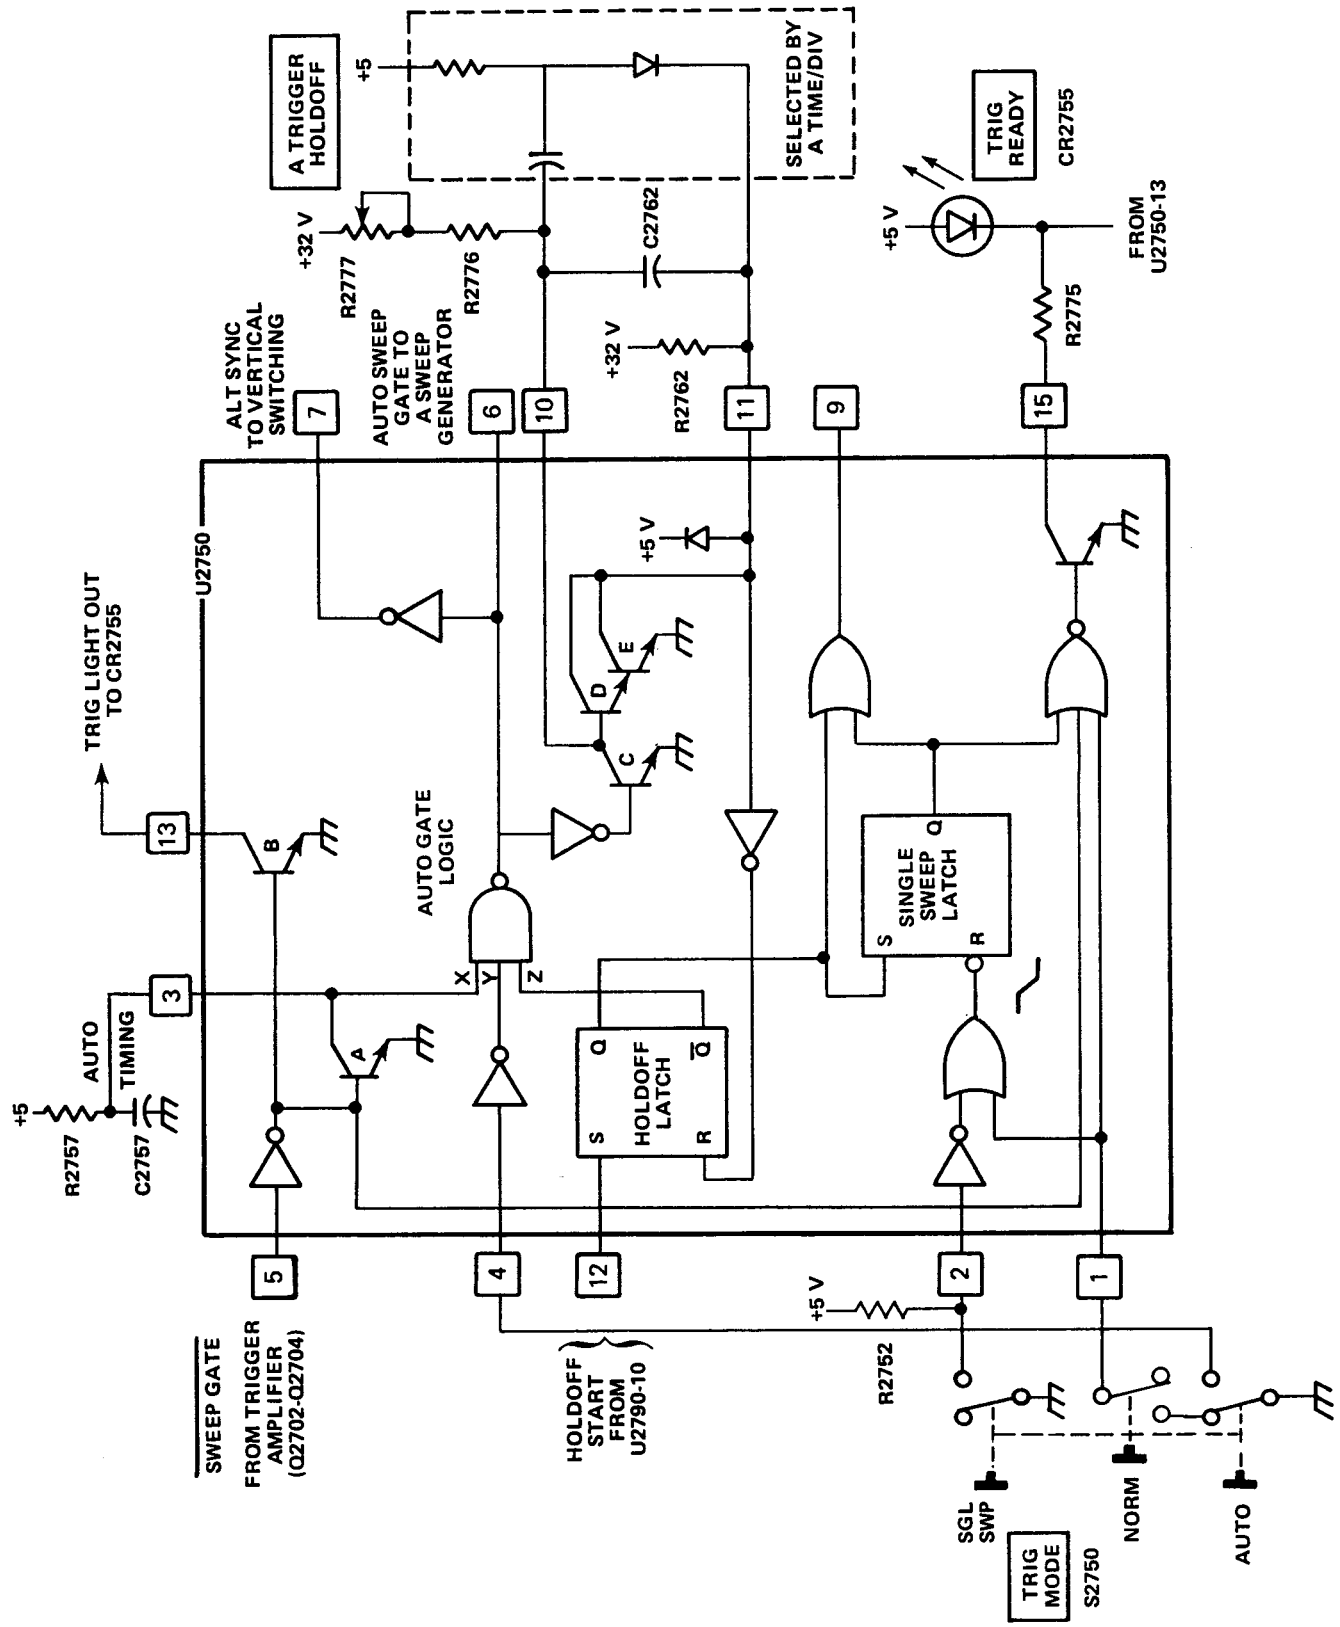
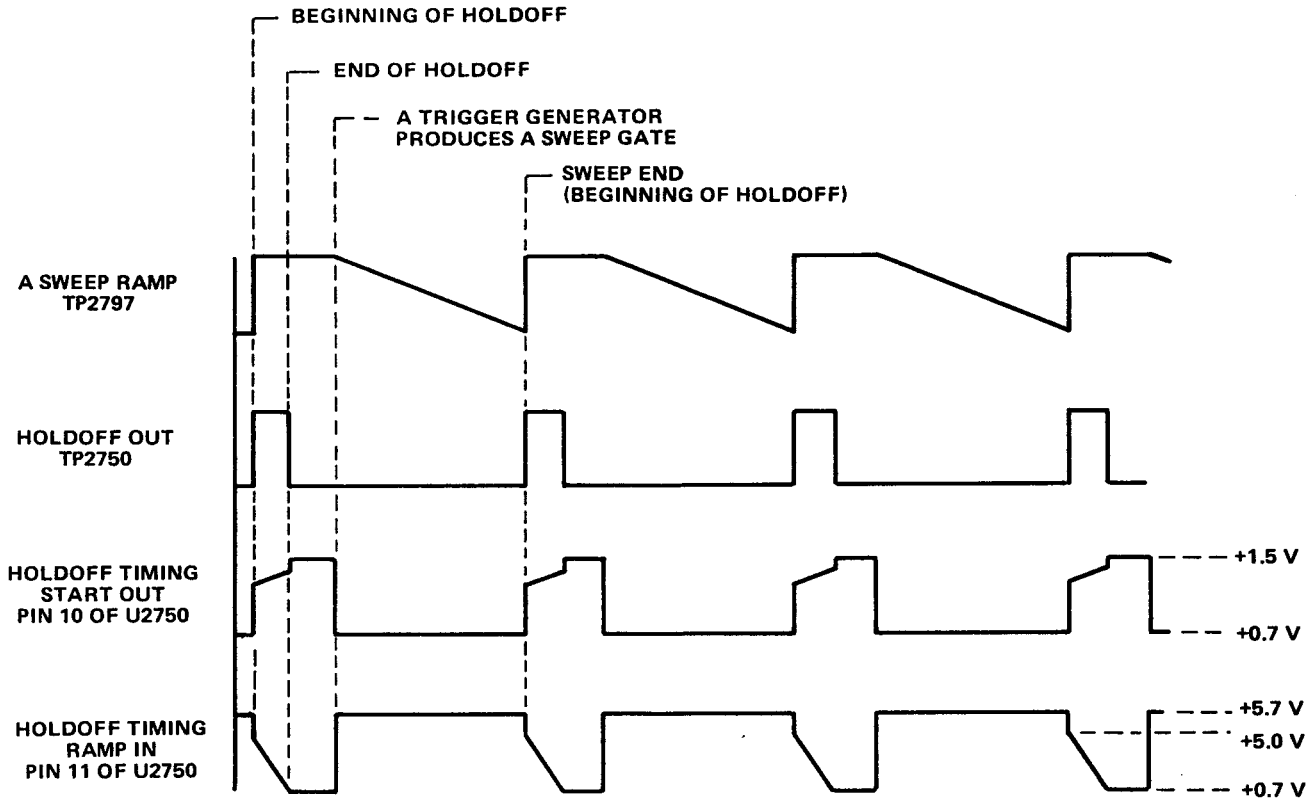
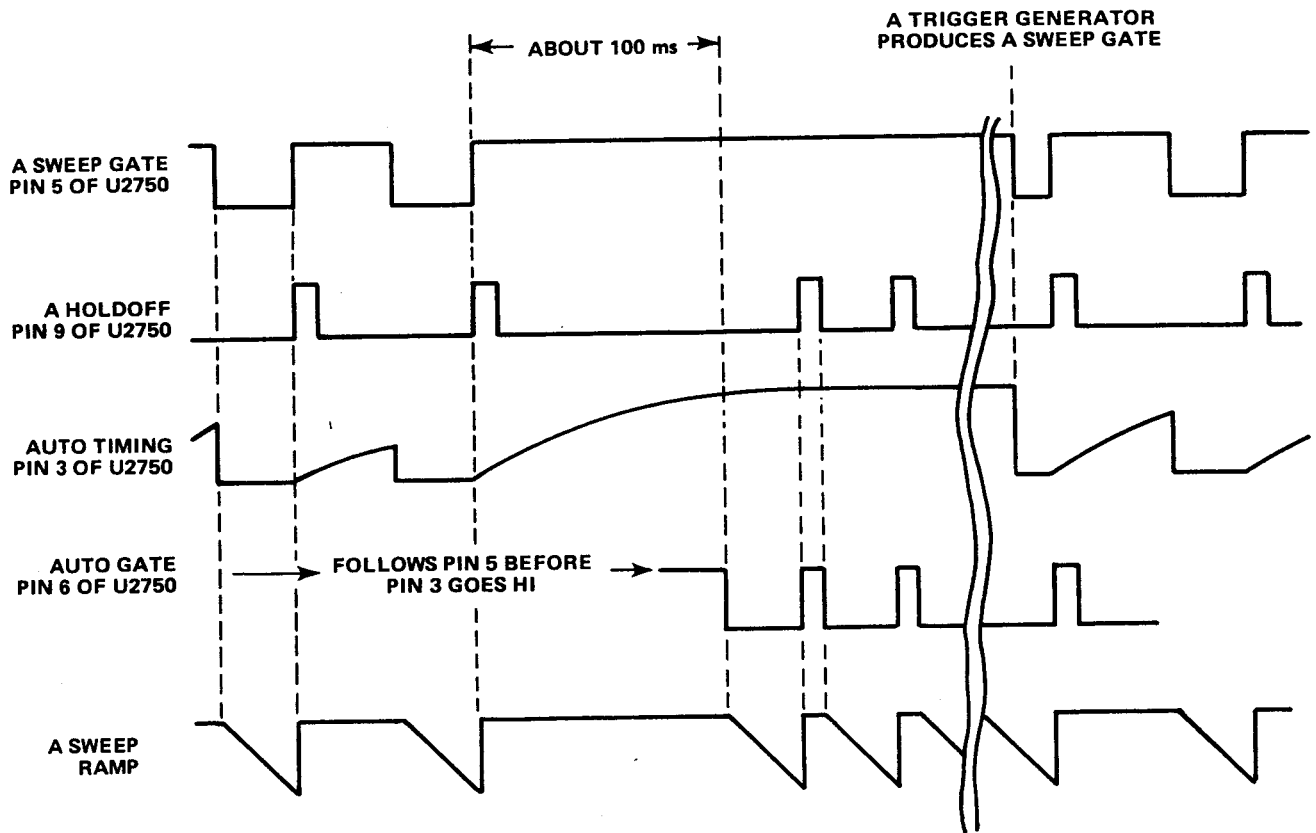

Figure 4-10. Functional block diagram of the sweep control integrated circuit and associated circuitry.
Figure 4-11. Waveforms produced by holdoff control circuitry.
Figure 4-12 Waveforms produced during AUTO sweep gate generation.
**(9) Sweep Control.** Sweep Control consists of U2750 and associated circuitry. The circuit controls holdoff duration, AUTO sweep, and single sweep operation. Figure 4-10 shows a functional block diagram of U2750 and associated circuitry.
**(a) Holdoff Control.** Holdoff control is provided by a Miller ramp generator which consists of three transistors within U2750, and an RC network. Resistors R2776 and R2777 are the timing resistors. Capacitor C2762 and a capacitor selected by the A TIME/DIV switch are the timing capacitors. Figure 4-10 shows a functional block diagram of U2750 and associated circuitry. Figure 4-11
**1** At the beginning of A sweep generation, pin 6 of U2750 steps LO. This LO passes through an inverting amplifier and turns on transistor C and turns off transistors D and E (see Figure 4-10). When transistors D and E turn off, pin 11 of U2750 is pulled more positive through R2762. Pin 11 is clamped at about +5.7 volts by a diode within U2750. The current through the timing resistors (R2776 and R2777) is supplied by transistor C through pin 10 of U2750. This condition is maintained until the end of A sweep generation.
**(b) AUTO Sweep Control.** When pin 4 of U2750 is set LO by the TRIG MODE switch, Sweep Control provides a baseline trace in the absence of an adequate trigger signal. Figure 4-10 shows the Sweep Control integrated circuit and associated circuitry. Figure 4-12 shows the waveforms produced during AUTO sweep gate generation.
1 When the TRIG MODE switch (S2750) is set to AUTO, pin 4 of U2750 is set LO. This sets input Y of the AUTO gate logic HI through an inverting amplifier within U2750 (see Figure 4-10).
**(c) Single Sweep Control.** When the TRIG MODE switch (S2750) is set to SGL SWP, pin 1 of U2750 is connected to ground. Now, when adequately triggered, only one sweep ramp will be generated. After one sweep is displayed, another sweep can't be presented until after the SGL SWP button has been pushed. Figure 4-10 shows a functional block diagram of the Sweep Control integrated circuit and associated circuitry.